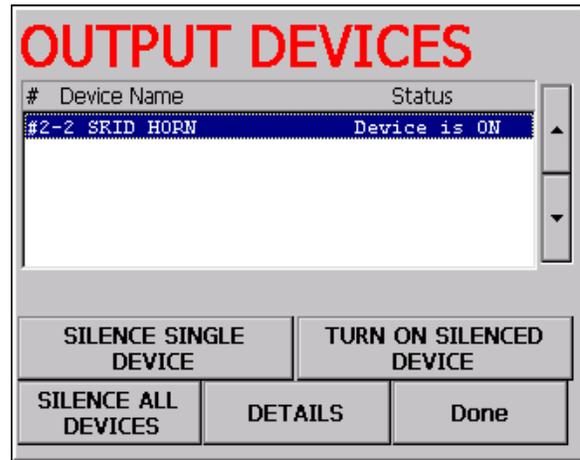

FIGURE 19.4 Silence menu selected indicating the horn is turned on.
□ Select the SILENCE MENU button in figure 19.2 to enter the OUTPUT DEVICES screen as indicated in figure 19.4.